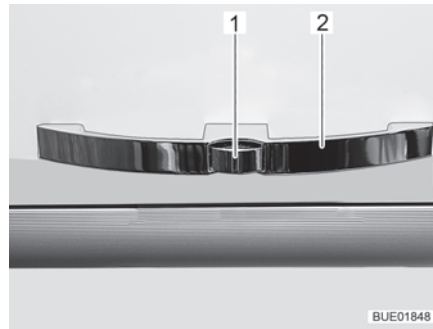

Fig. 48 Furniture flap with handle (example)
- Press the release knob (Fig. 48,1) on the handle (Fig. 48,2) and hold it down.